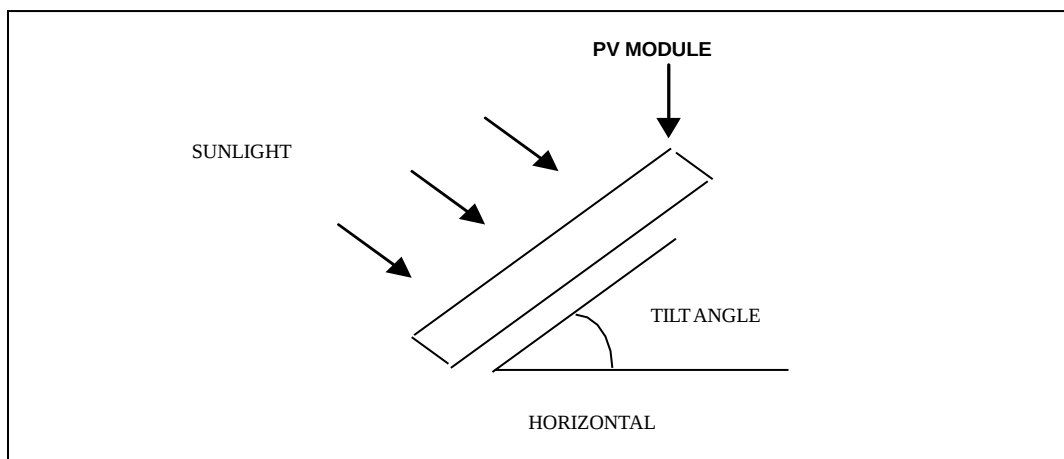

Fig. 7-1 Tilt angle
④ If Risen modules are used in offshore environment projects without evaluation, Risen will not assume any responsibility if the modules fail due to environmental factors.
- Installation inclination refers to the Angle between the solar photovoltaic module and the ground plane, as shown in Figure 7-1.